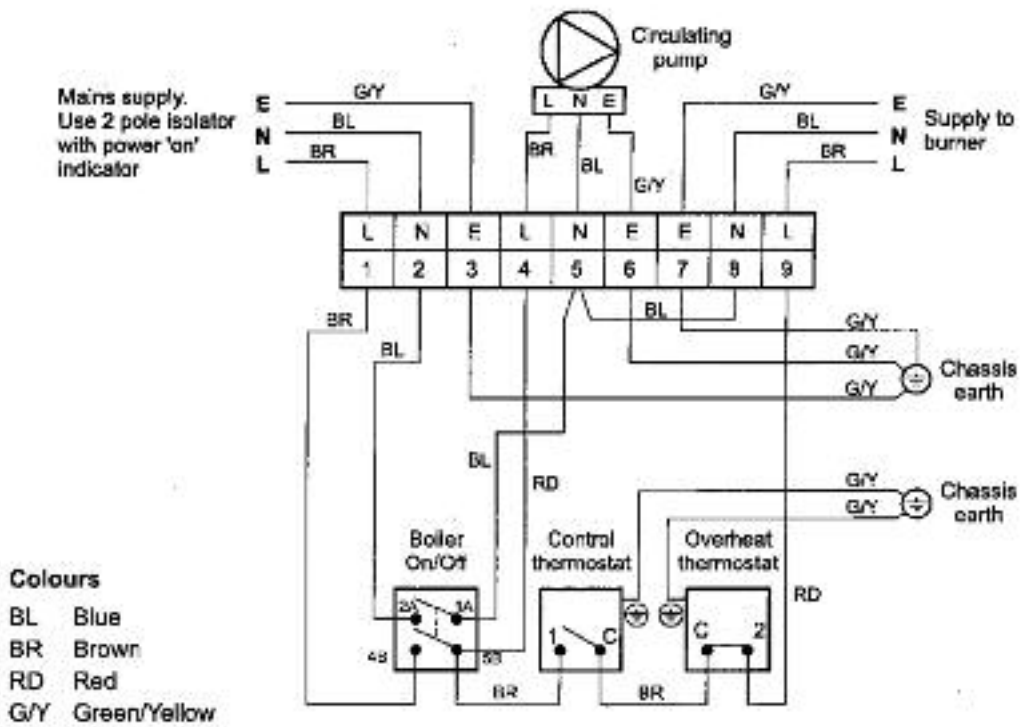

Fig. 28 - System boiler
- 12 Check the smoke number, if satisfactory check the CO2. Use the hexagonal key supplied to adjust the burner air damper (see Fig. 28) as required. Turning the screw clockwise closes the damper and increases CO2 level, turning the screw anticlockwise opens the damper and reduces CO2 level.